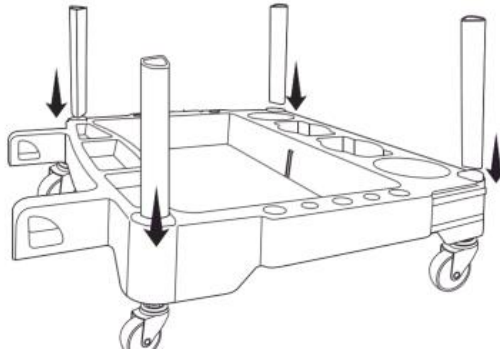

Fig. 3
3. Insert the four posts (4) into the base tray (Fig. 3).